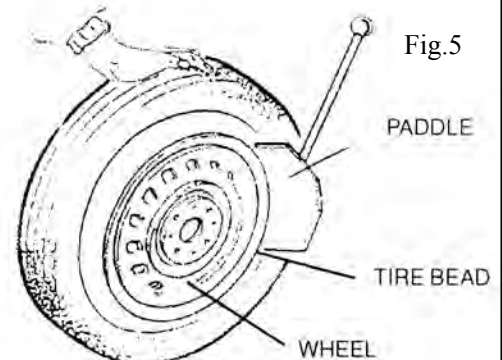

Fig.5
3. Open the bead breaker arm by hand by pushing it towards the outside. Place the wheel up against the Rubber Buffer. Bring the Paddle against the bead about 10mm from the edge of the rim. (see Fig.5)
5. Rotate the tire slightly, and repeat the procedure around the entire circumference of the wheel rim until the bead is completely detached from the rim. (Fig.5)